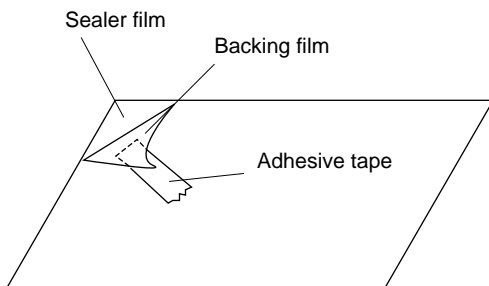

**Figure C-8. Door Replacement**
4. Try the principles of the lever and lift up the choke cover by inserting a putty knife in order shown in figure C-8.
7. Release two (2) pins of door panel from two (2) hole of upper and lower oven hinges by lifting up.
9. Release door panel from ten (10) tabs of door frame and remove door frame by sliding the door panel downward.